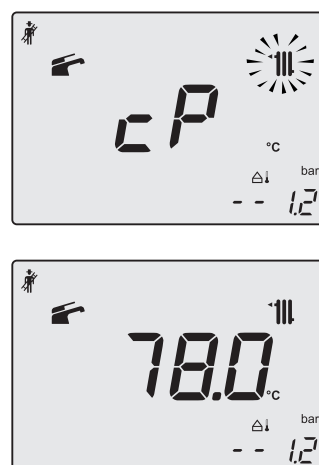

Figure 11.8
- 20 Press key G to vary the output in chimney sweep mode: when the display shows the letters **CP** that alternate with the heating water temperature value (e.g. 78), the "chimney sweep function" is at maximum output in heating mode (Figure 11.8);